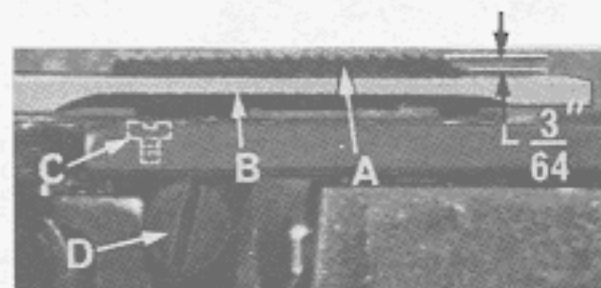

Fig. 8
Set the feed dog (A, Fig. 8) in the throat plate (B) so there is equal clearance on all sides. See that the tips of the teeth extend the depth of a tooth or approximately 3/64 inch above the throat plate and are parallel with the throat plate at high point of travel. Adjust the supporting screw (C), under the feed dog, to maintain this setting. Screw (D) is used to hold feed dog in position.